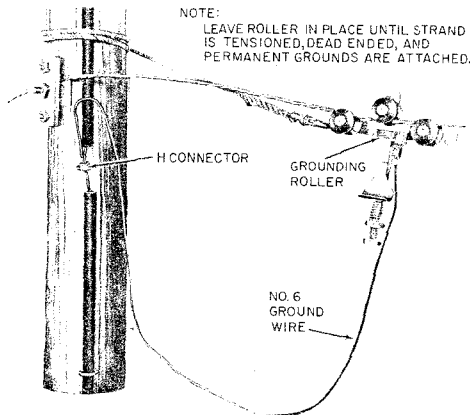

Fig. 19—Using a B Ground Roller With Stationary Reel
- 4.02 When strand is placed from a stationary reel, use a B grounding roller as shown in Fig. 19. (The B grounding roller is covered in Section 081-410-106.) Place the rollers at intervals of 1500 feet or less and at power crossings.